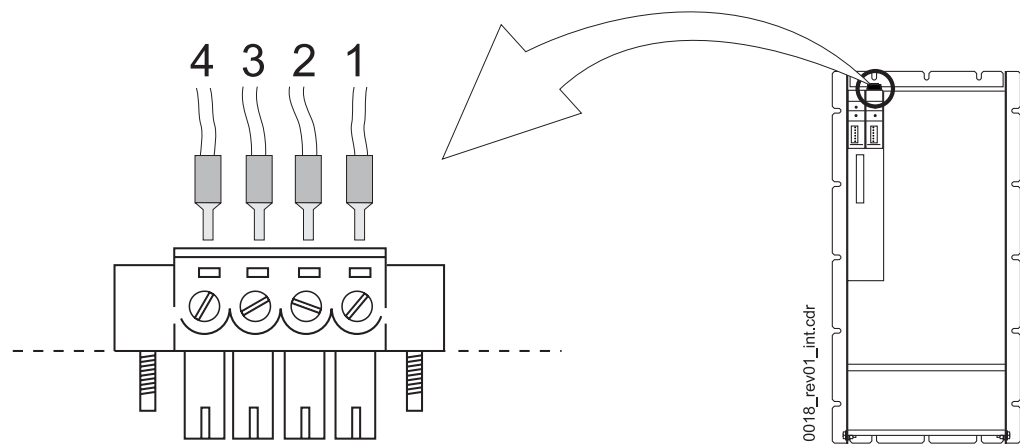

Figure 15: Safety relay X68
1) Position see ▶Figure 15◀ on page 51